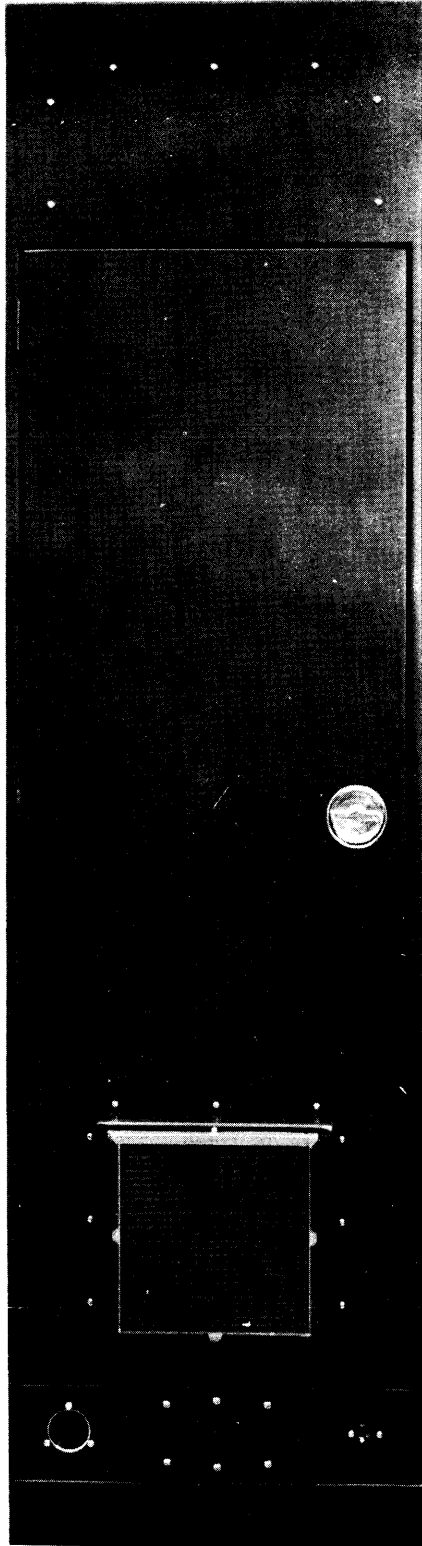

Figure I-1-lb. Rear View, SBT-1K(A) General Purpose Transmitter
The SBT-1K(A) is shown in figures I-1-a and I-1-b. The entire transmitter is contained in a single standard relay type rack measuring 72-1/4 inches high x 20-5/8 inches wide x 22-1/2 inches deep. Two types of model SBT-1K(A) are available, varying in rack installation as follows:
The rack is shipped with APP-4 Auxiliary Power Panel installed. Install the components as shown in figure I-1-a and make cable connections as described in Part VI. All components are slide-mounted except the SBE-2 Power Supply, SWR-1K Standing Wave Ratio Indicator and the APP-4 Auxiliary Power Panel. Follow this general procedure for installing the slide-mounted units (see figure I-2-2):